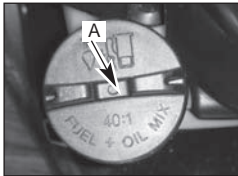

Fig. 22
NOTE: Keep vent (A) on fuel cap clean of debris (Fig. 22).